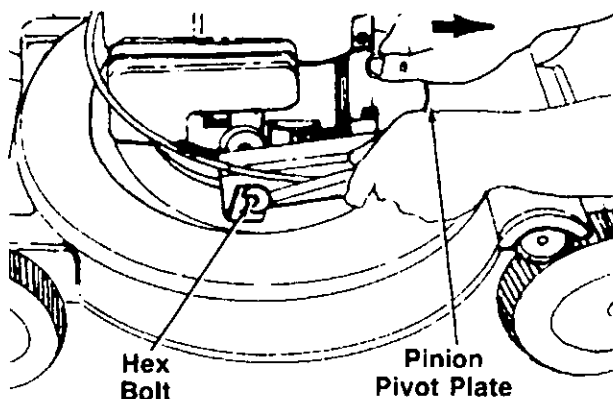

FIGURE 13.
1. Loosen (do not remove) the hex bolt on each side of the pinion pivot plate. See figure 13.